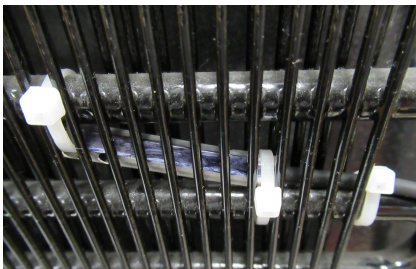

**Figure 5: Ferrite bead on cable connector end**
6. Install the ferrite bead 3/4" (if present) from the cable connector. Wrap the cable one complete turn around the bead and snap it closed (Figure 5).